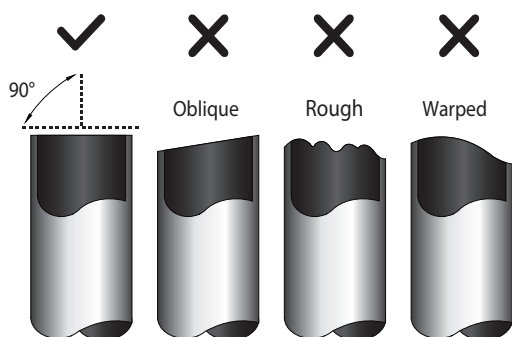

Fig. 7.3
1. Make sure that the pipe is cut at a perfect 90° angle. Refer to Fig. 7.3 for examples of bad cuts